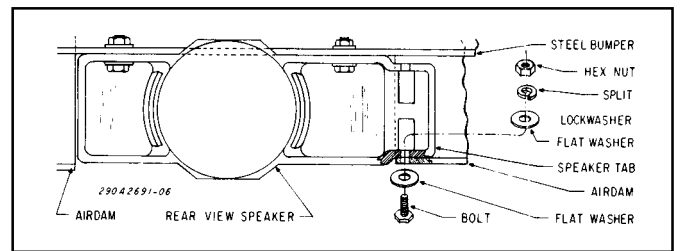

Figure 6. Air Dam to Speaker Attachment.
8. Secure the air dam to the speaker using a #8-32 screw, 0.88" O.D. washer, lockwasher and nut as shown in figure 6.